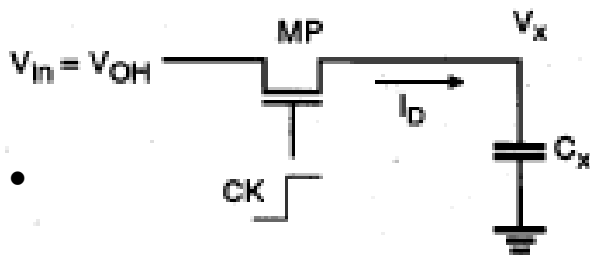

Fig.2: Equivalent circuit for the logic "1" transfer event.
- Consequently, $V_{Ds} > V_{Gs} - V_{TN}$. The circuit to be analyzed for the logic "1" transfer event can be simplified into an equivalent circuit as shown in Fig. 2.
- Consequently, $V_{Ds} > V_{Gs} - V_{TN}$. The circuit to be analyzed for the logic "1" transfer event can be simplified into an equivalent circuit as shown in Fig.2.